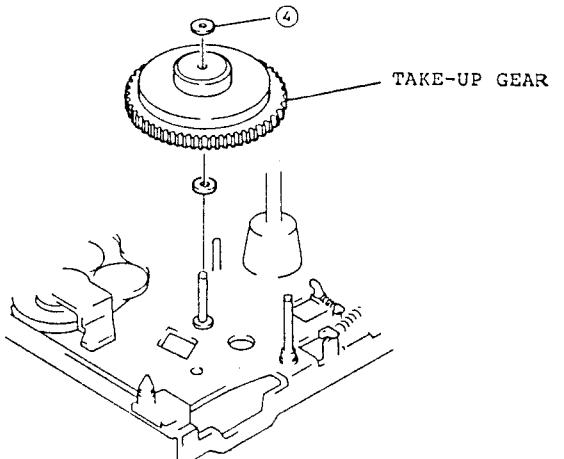

Fig. 2-74
4. Remove one (1) washer holding the take-up gear. (See Fig. 2-74)